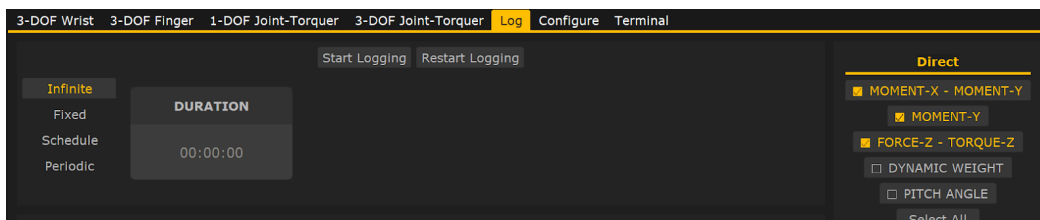

Figure 7: Logging data in BonneChere
- Select the channels you want to collect data for on the right hand side under “Direct”, as shown below in Figure 7.
- Use the “Start Logging” button (seen in Figure 7) to begin collecting data, and then press “Stop Logging” to stop collecting data.